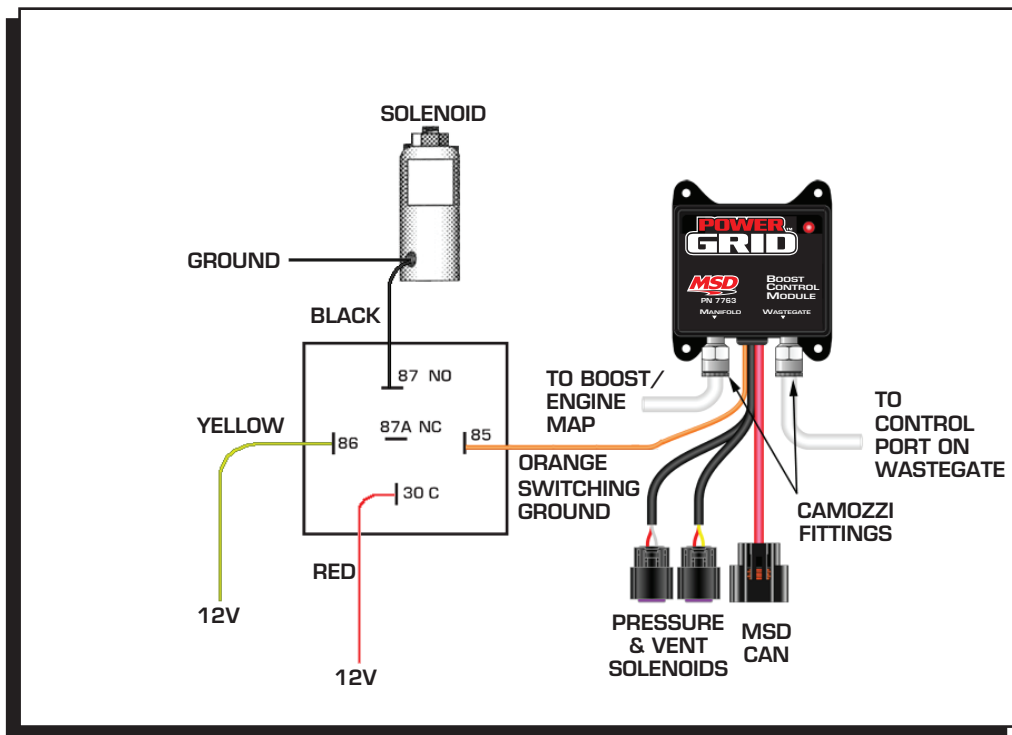

Figure 3 General wiring
3. The orange wire switches to ground when active. Use a relay to activate devices that consume more than 2 amps (Figure 3).
Boost Pressure Switch: The Orange wire switches to ground while the set boost pressure is exceeded. The Orange wire can sink up to 2 amps of current (continuous) to ground (Figure 3). The default setting is 43.5PSI and can be adjusted from 0psi to 43.5PSI.